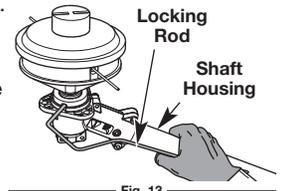

Fig. 13
2. Hold the locking rod in place by grasping it next to the boom of the shaft housing (Fig. 13).